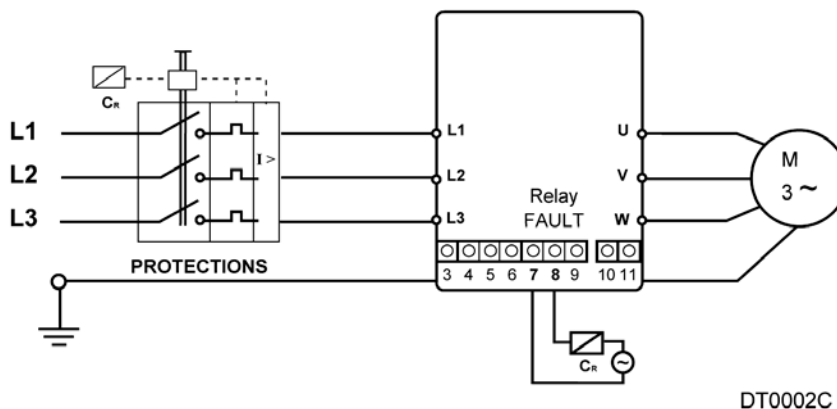
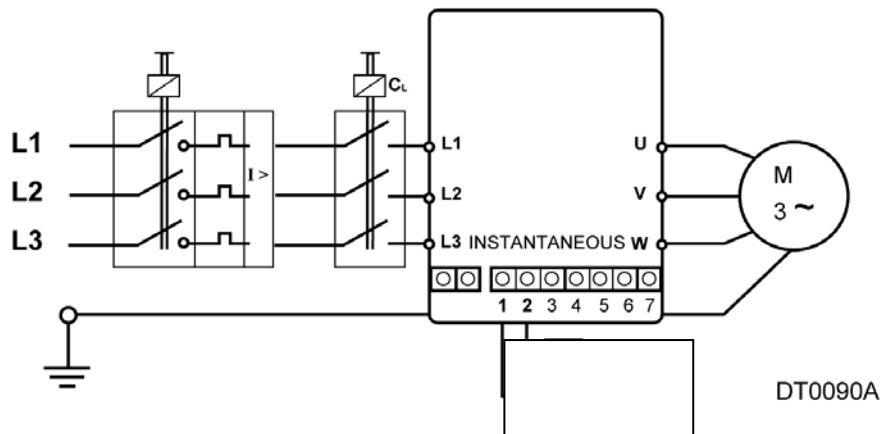

Figure 2.2 Recommended power wiring
Figure 2.3 Line Contactor (CL) configuration
- The SCR's used at the power circuit are electronic switches therefore it is recommended to use the configurations as shown on Fig. 2.2 or Fig. 2.3 of this manual.